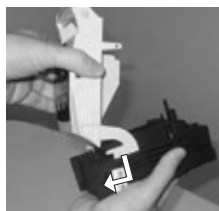

Figure 4
- Insert the cover into the disconnecter base and then move the cover along the disconnecter base up to firm resistance (Figure 4).